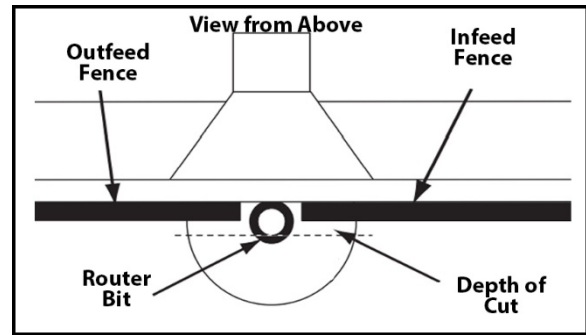
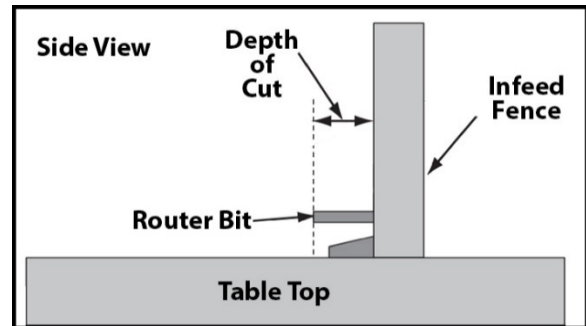

Figure 53A
Figure 53B
3. With the router lift handle, raise the router bit to the desired height, then adjust the fence to the desired depth of cut (Fig.53A)(Fig.53B)